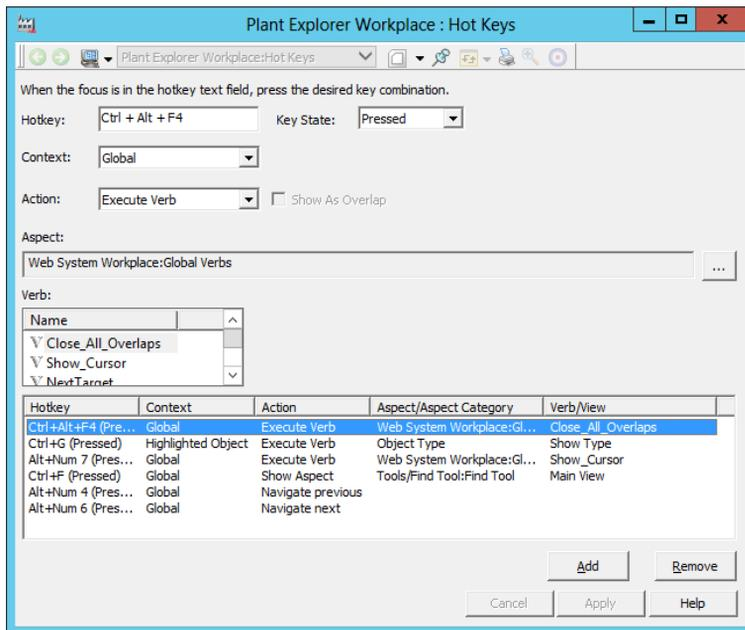

Figure 44. Hot Key Aspect
3. Select hot key combination in the **Hotkey** text field. See Figure 44.